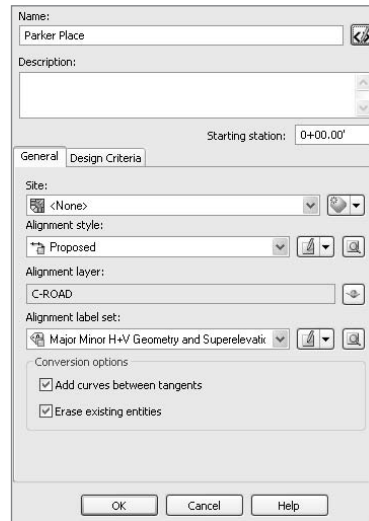

Figure 8.2
3. Select the polyline representing Parker Place somewhere near the southern end to display the `Create Alignment – From Polyline` dialog shown in Figure 8.2. When converting a polyline to an alignment, the nearest end point becomes the beginning of the alignment.
4. In the Name area, enter **Parker Place**, but leave the rest of the options alone so your dialog looks like Figure 8.2.
Congratulations, you've made your first Civil 3D alignment! Now, let's look back at Figure 8.2 and discuss the options skipped over so rapidly in the exercise.
- Site controls which Civil 3D site an alignment will be contained within. You can refer to Chapter 6, “Parcels,” for a full explanation of the Civil 3D sites, but most alignments are best stored in the <None> site as shown in Figure 8.2.